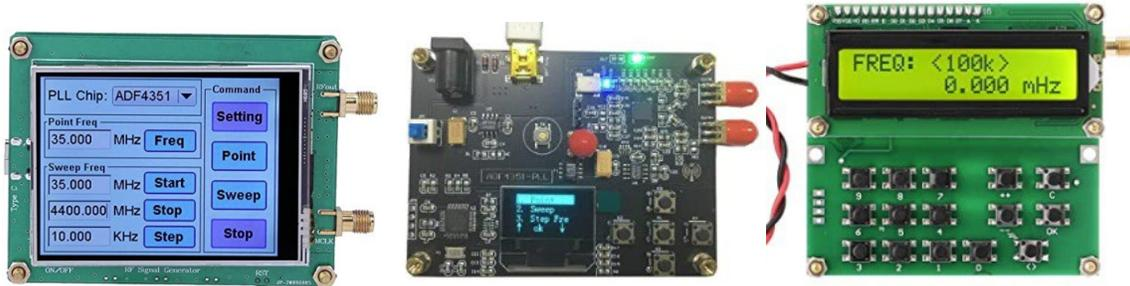

Fig. 2 Three versions of a Chinese, ADF-4351, Frequency Synthesizer board
LO: The key element, and typically the most expensive, is to find a good Local Oscillator (LO). The recent availability of the Analog Devices frequency synthesizer ICs has made a quantum leap forward in designing, microwave gear, such as a down converter. For the low end of the microwave band, the Analog Devices model ADF-4351 is ideal. It covers from 35 MHz up to 4.4 GHz. It can be set to any arbitrary frequency to 1kHz resolution. It is available from China already mounted on a printed circuit board, complete with the support electronics to enable the user to easily set the desired frequency. The photo, Fig. 2, shows examples of several different versions found on Amazon. Prices range from about \$25 to \$55.